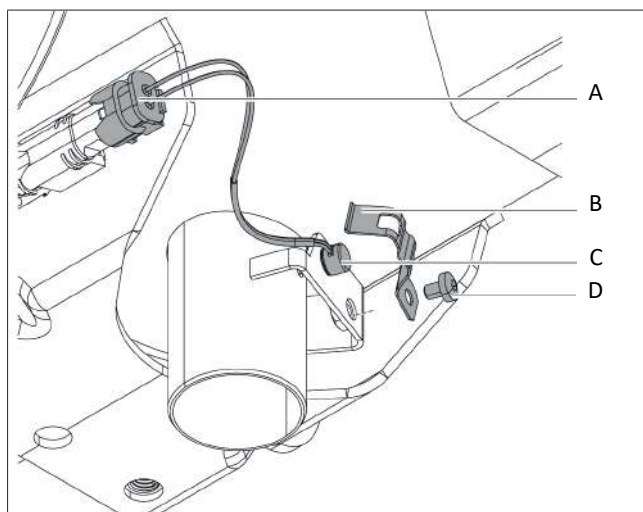

Fig. 49 Exhaust gas temperature sensor with connector, clip and screw
2. Position spring clip of exhaust gas temperature sensor. See Fig. 49.